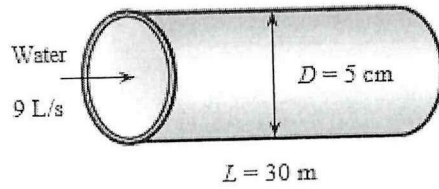

FIGURE Q2(c)
- Q1** (a) Using appropriate graph define Newtonian fluid. On the same graph, name and indicate **TWO (2)** examples of non-Newtonian fluids. (5 marks)
- (c) Water at 10°C ($\rho = 999.7 \text{ kg/m}^3$ and $\mu = 1.307 \times 10^{-3} \text{ kg/m} \cdot \text{s}$) is flowing steadily in a 5 cm diameter, 30 m long pipe horizontal pipe made of stainless steel at a rate of 9 L/s as shown in **Figure Q2 (c)**. Determine: